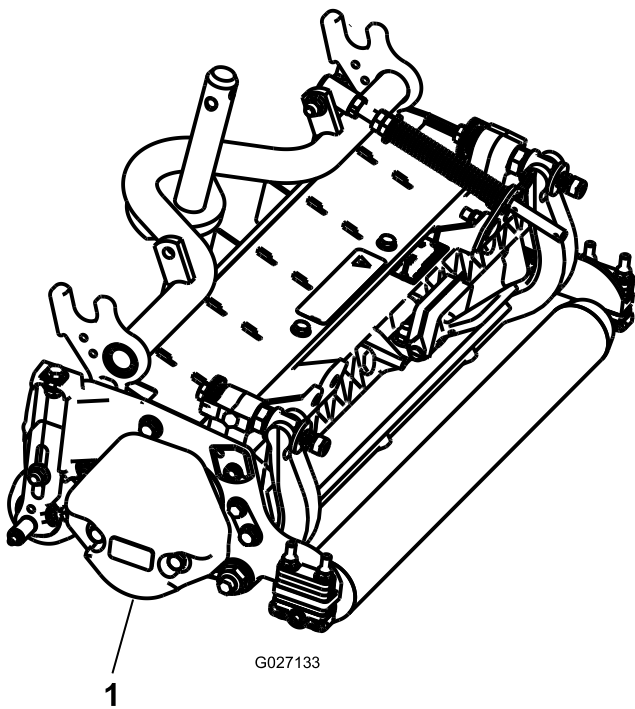

Figure 4
3. Make sure that the counter weight (Figure 4) is installed to the proper end of the cutting unit as described in the counter weight kit *Installation Instructions*.